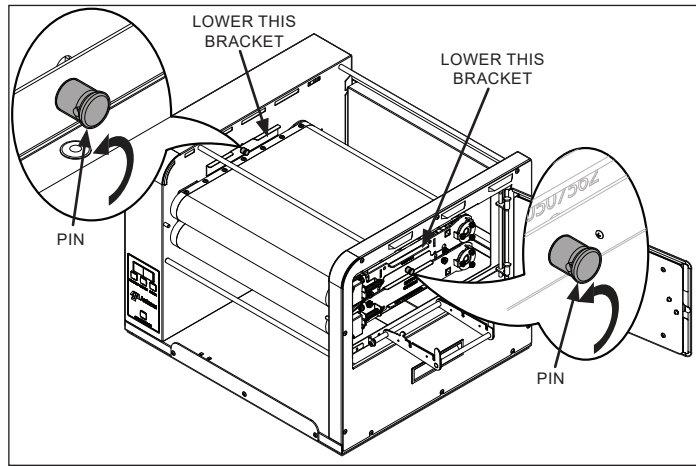

Figure 7. Rotate Pins and Lower Brackets
7. Lock the brackets shown in Figure 7 by rotating the highlighted pin so the brackets drop down into place. Push down on each bracket to ensure they are in position.